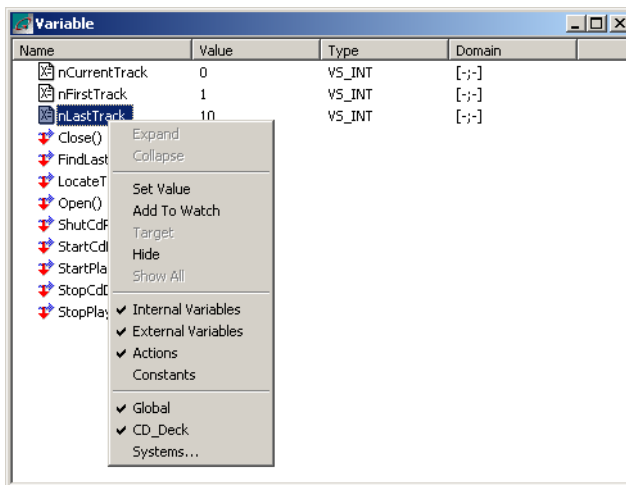

Figure 144: Variable window (Validator), with pop-up menu
- 1 Open the Variable window. See *Figure 144*, page 176.